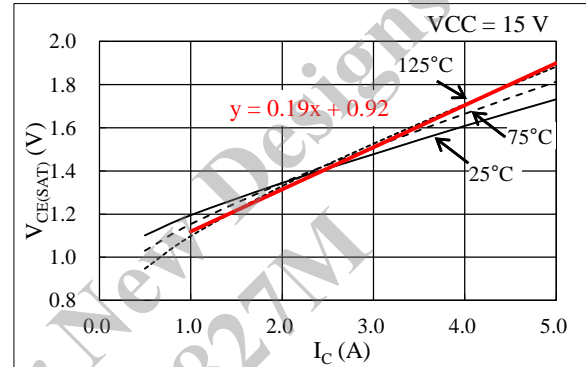

Figure 14-1. Linear Approximate Equation of $V_{CE(SAT)}$ vs. I_C Curve
Steady-state loss in an IGBT can be computed by using the $V_{CE(SAT)}$ vs. I_C curves, listed in Section 15.3.1. As expressed by the curves in Figure 14-1, linear approximations at a range the I_C is actually used are obtained by: $V_{CE(SAT)} = \alpha \times I_C + \beta$. The values gained by the above calculation are then applied as parameters in Equation (4), below. Hence, the equation to obtain the IGBT steady-state loss, P_{ON} , is: